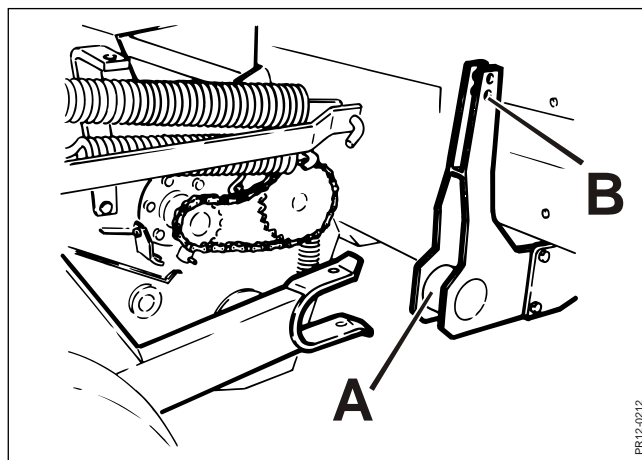

Fig. 3-1
**Fig. 3-1** Wheel the pick-up on the rollers to the machine so that catch **A** is engaged. The two pins must be fitted in order to lock the pick-up to the basic machine. Attach the relief device to the pick-up at **B**.